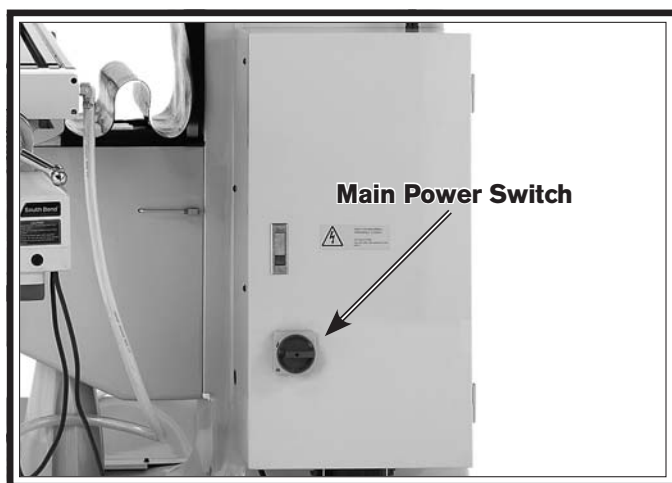

Figure 16. Location of the main power switch on the electrical box door.
7. Make sure the electrical cabinet door is latched shut, then rotate the main power switch to the **ON** position so that power flows to the control panel (see **Figure 16**).